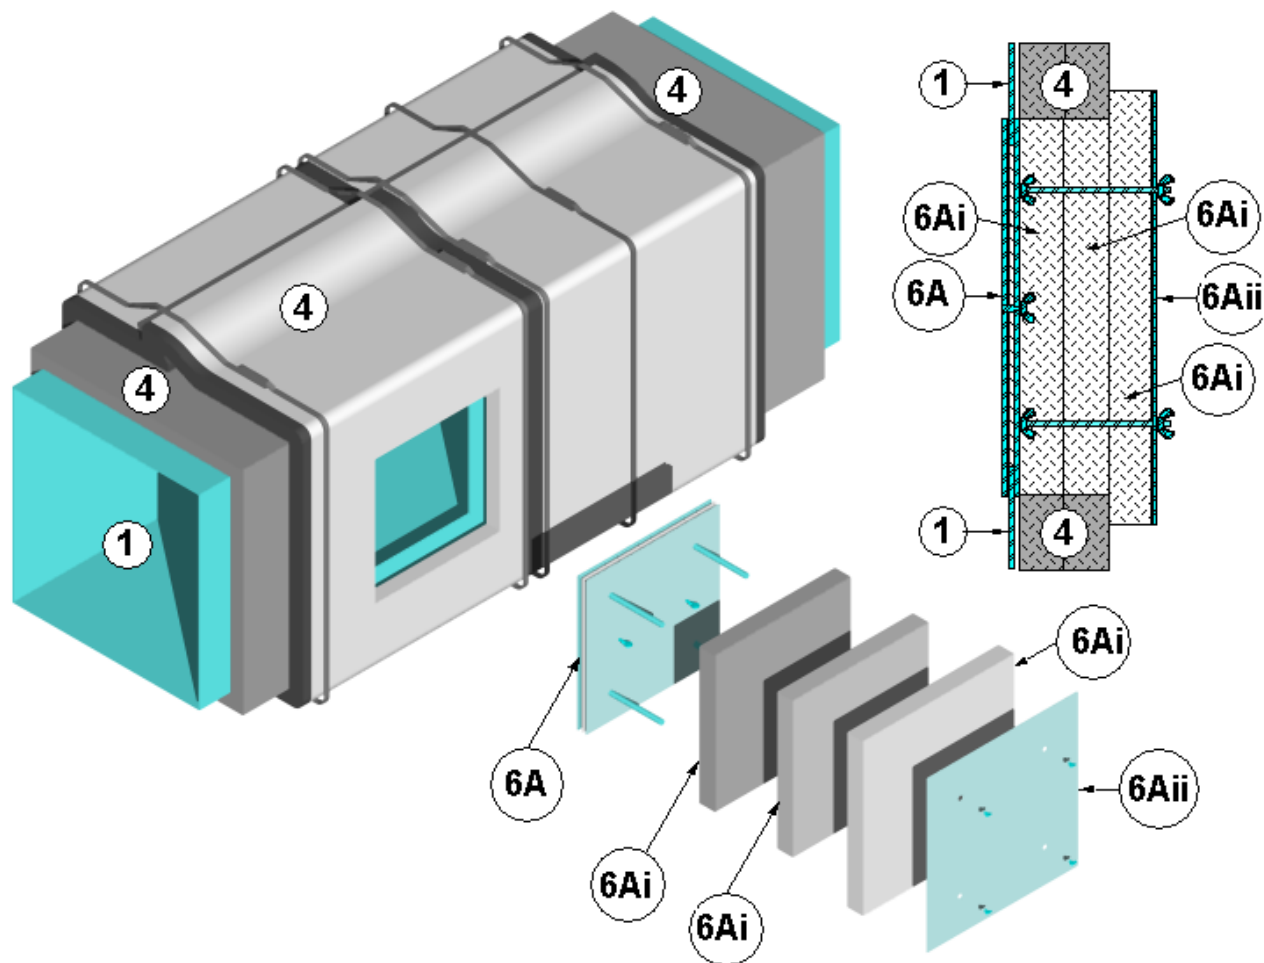

Figure 2 – Ductmate Pre-fabricated Access Door
OPTIONAL PRE-FABRICATED ACCESS DOORS: Refer to Figure 2. Mark a clean-out access opening location on the insulated grease duct (Item 1) at its mid-height along the horizontal section. Cut an opening in the duct insulation (Item 4) the same size as the outside dimension of the desired pre-fabricated access door model. Remove and discard the cut duct insulation (Item 4). Cut an opening into the side of the grease duct (Item 1) according to the manufacturer's instructions for the size of the pre-fabricated access door to be installed. Install and tightly secure the pre-fabricated access door in accordance with the manufacturer's instructions to the grease duct (Item 1). Cut the outer layer of duct insulation (Item 4) so that a 1 in. perimeter of the inner layer of duct insulation (Item 4) is seen, creating a "stair-step."
ACCESS INSULATION: Refer to Figure 2. Remove the four (4), 3/8 in. diameter, corner-thumb bolts and